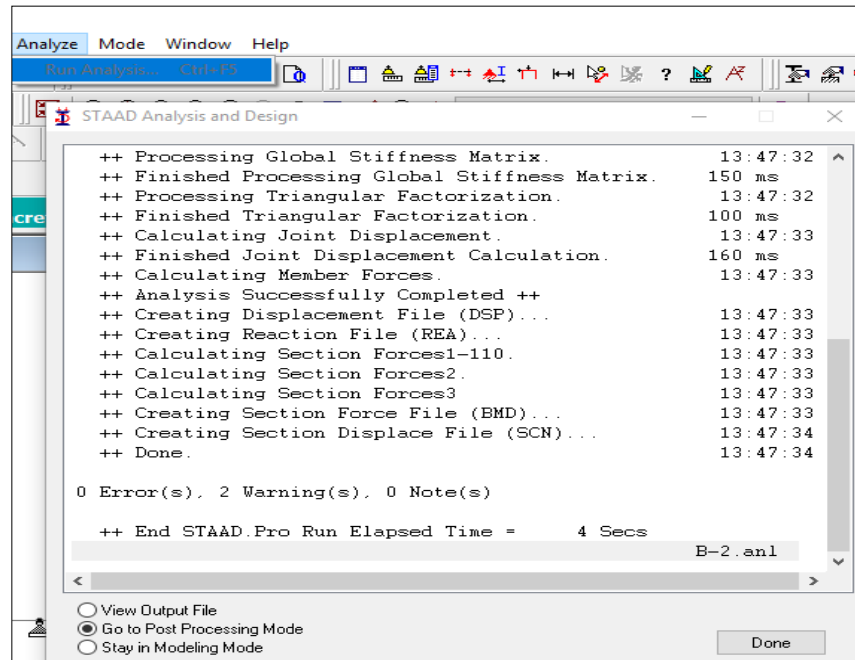
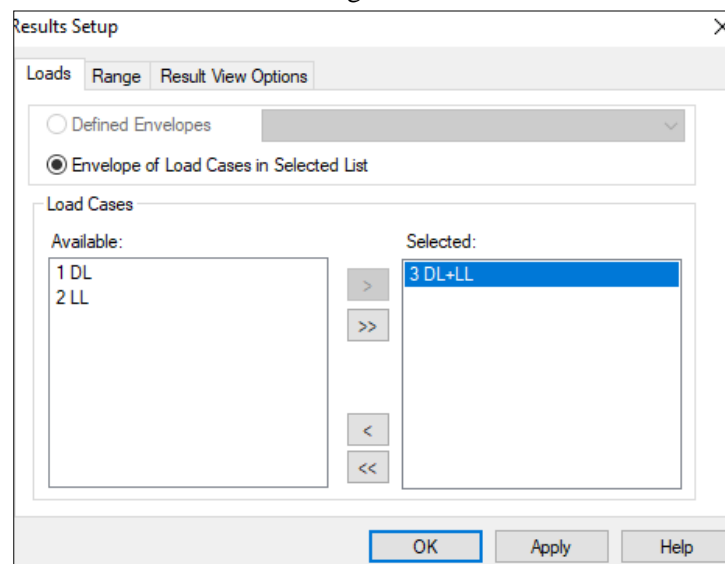

Fig: 4.29
Fig: 4.30
- At Menu bar → Analyze → Run Analysis → Go to post processing mode → Done → Selected load cases = DL+LL → Apply → OK. (Fig: 4.29 & Fig: 4.30)